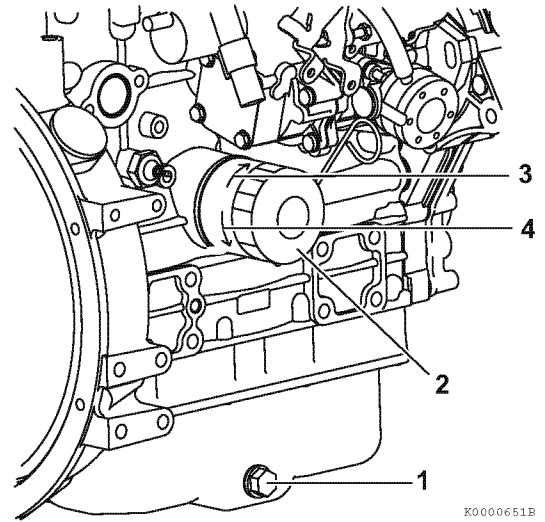

Figure 5-8
6. Remove the oil drain plug (**Figure 5-8, (1)**). Allow oil to drain.
7. After all oil has been drained from the engine, reinstall the oil drain plug (**Figure 5-8, (1)**) and tighten to 39.8 - 47.0 ft-lb (53.9 - 63.7 N·m, 5.5 - 6.5 kgf·m).
1. Turn the engine oil filter (**Figure 5-8, (2)**) counterclockwise (**Figure 5-8, (4)**) using a filter wrench.
3. Lightly coat the gasket on the new oil filter with clean engine oil. Install the new engine oil filter manually by turning it clockwise (**Figure 5-8, (3)**) until it contacts the mounting surface. Tighten to 14 - 17 ft-lb (19.6 - 23.5 N·m, 2.0 - 2.4 kgf·m or one additional turn using the filter wrench.